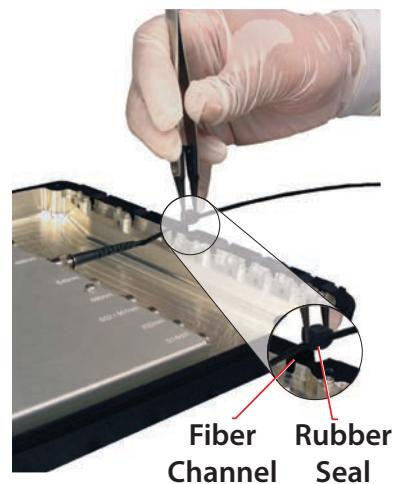

Figure 13-21. Remove Rubber Seal
4. Using the tweezers, carefully lift the rubber seal from the fiber channel, as shown in Figure 13-21.